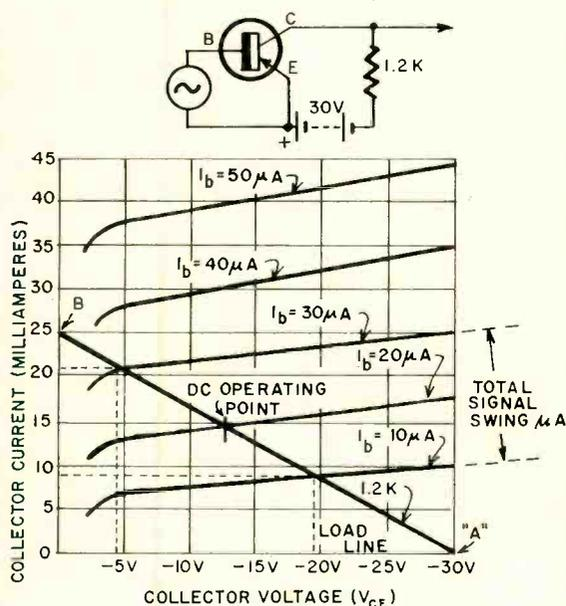

Fig. 3—Load line (AB) is drawn on transistor collector operating curves to find circuit operating characteristics, then dc operating point is selected.
**Question:** If the Zener diode in Fig. 3-a is a 10-volt device and the maximum current through it is 1 ampere, what is its wattage dissipation?
It could get pretty confusing if we tried to analyze an amplifier under its dynamic conditions without some type of graph or chart to tell us what happens at any specific time. We know the collector current, base current and collector voltage are all related to each other. For instance, if base current is increased, collector current increases and collector-to-emitter voltage decreases. This can be seen by referring to the transistor "load-line" drawing of Fig. 3.
plots the load line to suit his requirements. Much knowledge of transistor action can be obtained by learning the fundamentals of this graph. The steps used to draw the load line of Fig. 3 are:
Refer to Fig. 3. You will see that when the base-current change is 20  $\mu\text{A}$ , the collector current will change a total of 12 mA. Likewise, the change in collector voltage will be 15 volts.
Your answer is not correct. Return to **Block 4**, study Fig. 3 and then go directly to **Block 15**.